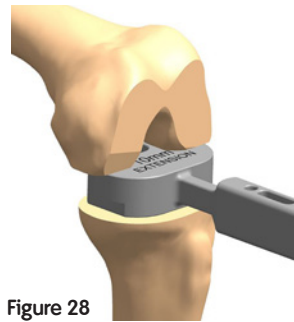

Figure 28
1. The 9mm end of the Extension Spacer Block should easily insert into the flexion gap (Figure 28).